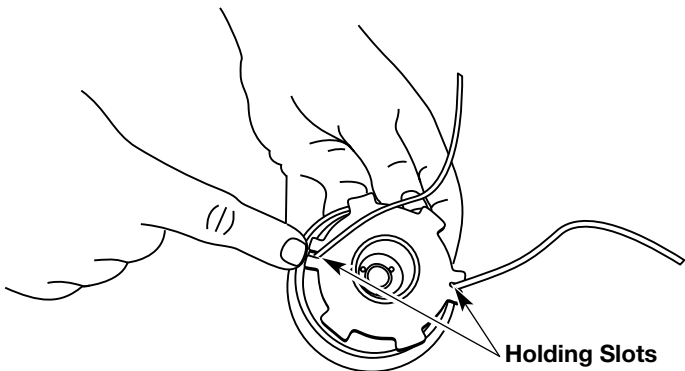

Fig. 27
8. Insert the ends of the line into the two holding slots and cut to the same length (Fig. 27).